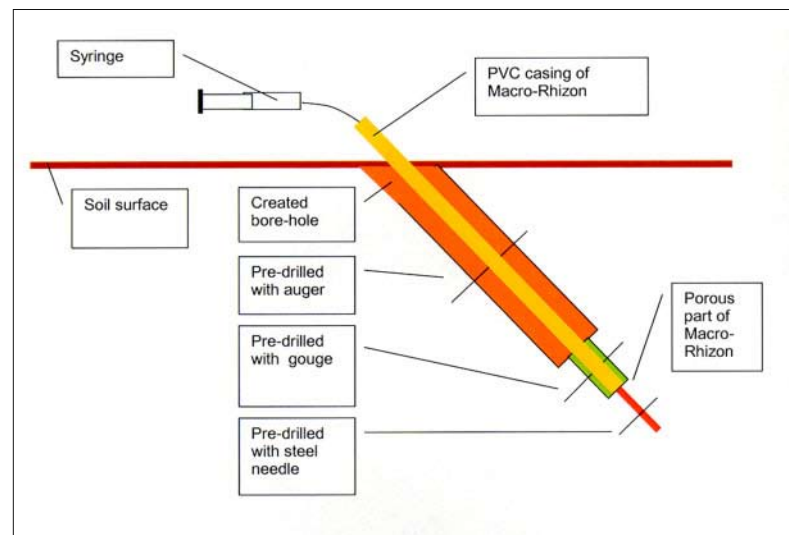

Fig. 2: Installation of a MacroRhizon
- Make a hole in the ground with a gouge under an angle of 45° (or a small diameter auger if the soil is too hard). See figure 2 “Installation of a MacroRhizon”.